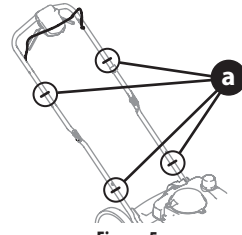

Figure 5
4. If necessary, tighten any loose cable ties (a) securing cables to the handle (Figure 5).